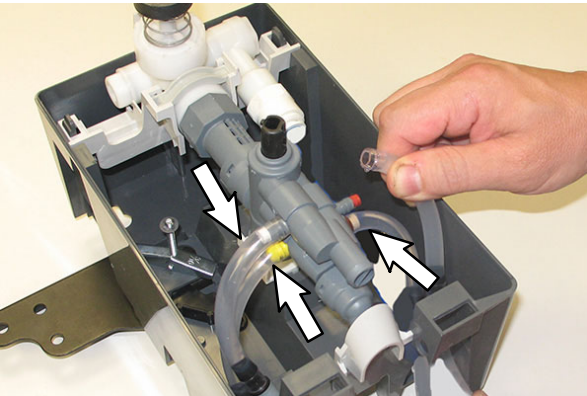

FIG. 42
7. Disconnect the four solution delivery hoses from the barbed fittings (eductors) on the valve assembly. (Fig. 42)
19. Reconnect the four solution delivery hoses to the barbed fittings (eductors) on the valve assembly. (Fig. 42)